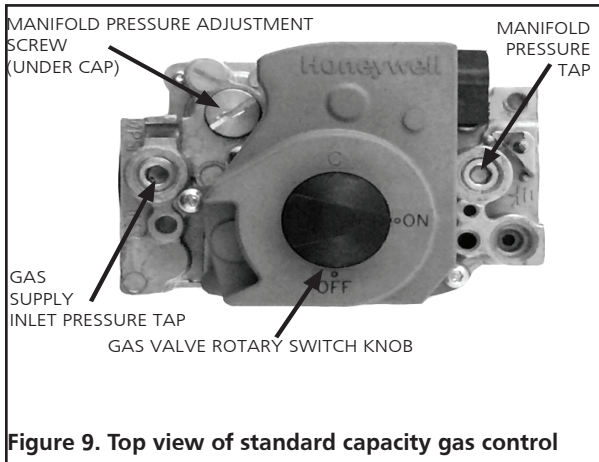

Figure 9. Top view of standard capacity gas control
- Remove pilot adjustment cover screw. Refer to Figure 9.